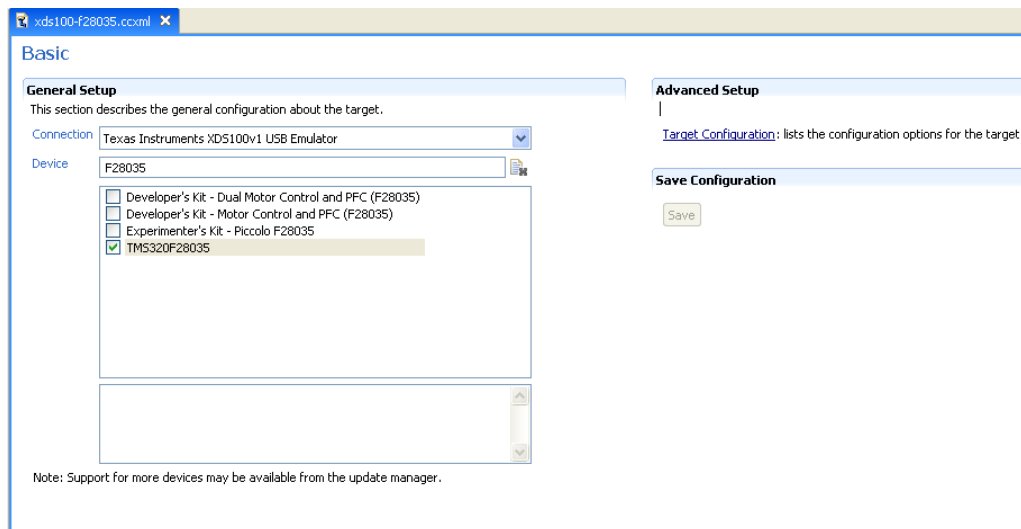

Figure 21 Target configuration
6. A new tab will now appear, Figure 21. Select and enter the options as shown: